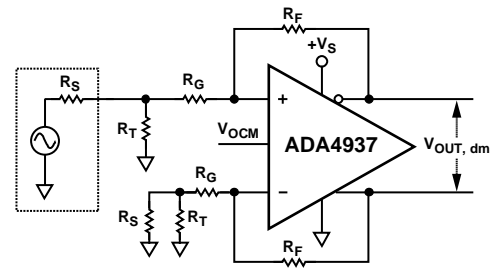

Figure 55. ADA4937-x Configured for Unbalanced (Single-Ended) Input
For an unbalanced, single-ended input signal (see Figure 55), the input impedance is
**Table 11. Single-Ended Ground-Referenced Input, DC-Coupled, RS = 50 Ω, RL = 1 kΩ; See Figure 55**